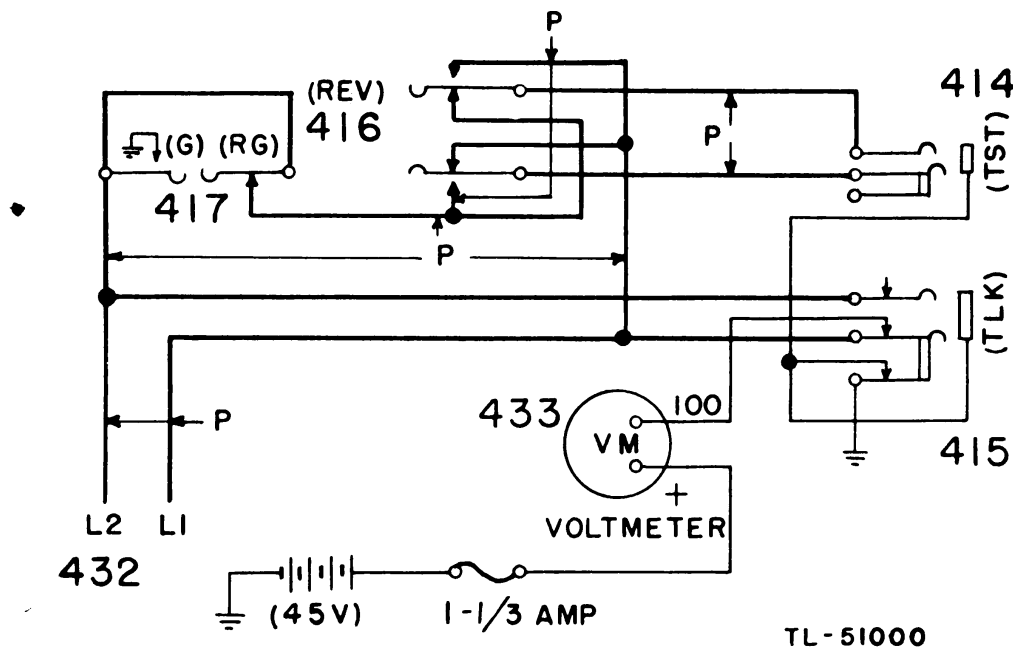

Figure 47. Cabinet BE-72, voltmeter test circuit, schematic diagram.
a. **Voltmeter Test Circuit (fig. 47).** This circuit is used for routine testing of magneto and common-battery lines, and for making tests on out-of-order lines as follows: